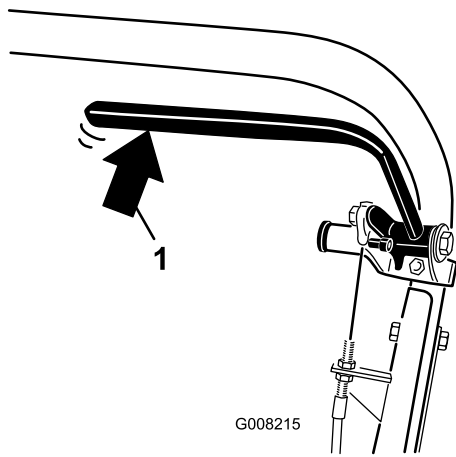

Figure 32
2. Using a spring scale, press rearward on the service brake lever (Figure 32). The parking brake should release when a force of 13.5 to 18 kg (30 to 40 lbs) is attained. If the parking brake releases before 13.5 to 18 kg (30 to 40 lbs) of force is attained, an adjustment to the brake cable is required. Proceed to step 3.